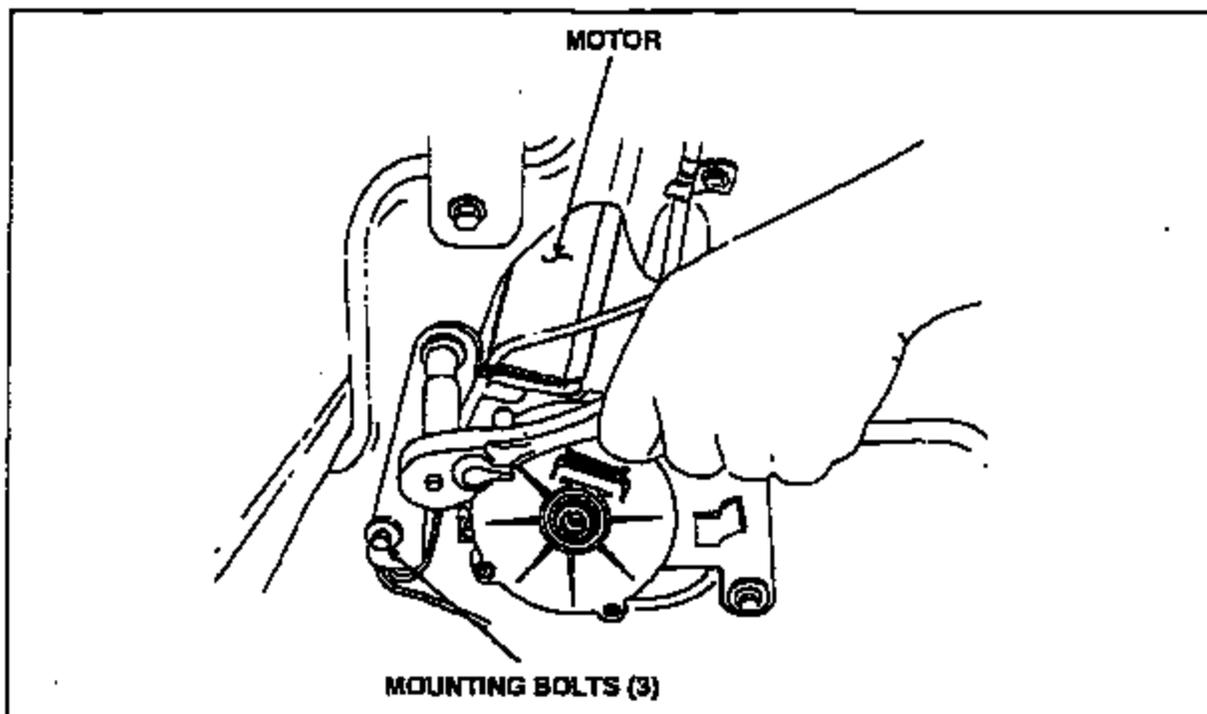

FIGURE 5
10. Remove the three (3) motor mounting bolts. See Figure 5.